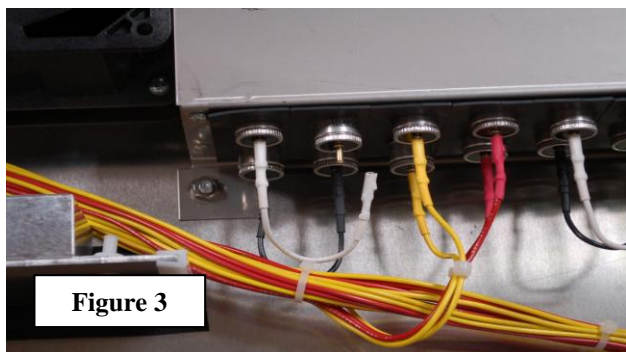

Figure 3
- Each set of ballast will have a total of 4 wires coming off its outlet side – 2 red wires and 2 yellow wires. **See figures 3, 4, & 5 on page 6 and wiring diagram on page 8.**
- Each set of 2 lamps will have (1) yellow wire going to one lamp and (1) red wire going to the second lamp. These 2 lamps are then connected via a small jumper wire (either white or black – these jumpers are interchangeable). See wiring diagram on page 8. Repeat the above for the second set of 2 lamps. Once completed, you have a group of 4 lamps wired into (1) ballast.